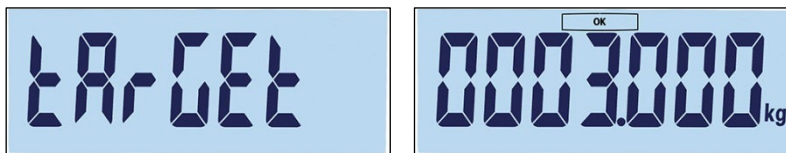

Figure 3-47: Target Label and Setting Screens
4. Once the record number is confirmed by pressing , the target screen will appear briefly, and then the target editing screen (Figure 3-47).